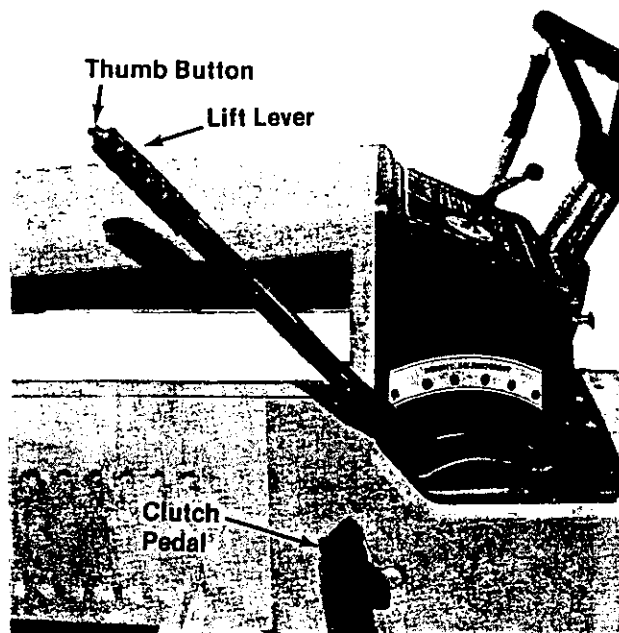

FIGURE 5.
You must depress the clutch pedal and come to a complete stop before shifting gears. See figure 5.
Clutch—The clutch pedal is located on the left side of the tractor. Depressing the clutch pedal disengages the clutch. The clutch pedal must be depressed when you shift the transaxle, come to a complete stop with the engine running and start the engine. See figure 5.
Lift Lever—The seven position lift lever is used to change the operating position of all the front, center and rear mounted attachments. To operate, depress the thumb button, move the lift lever to the desired position and release the button. See figure 5.
- B. Depress and hold down the clutch pedal. See figure 5.